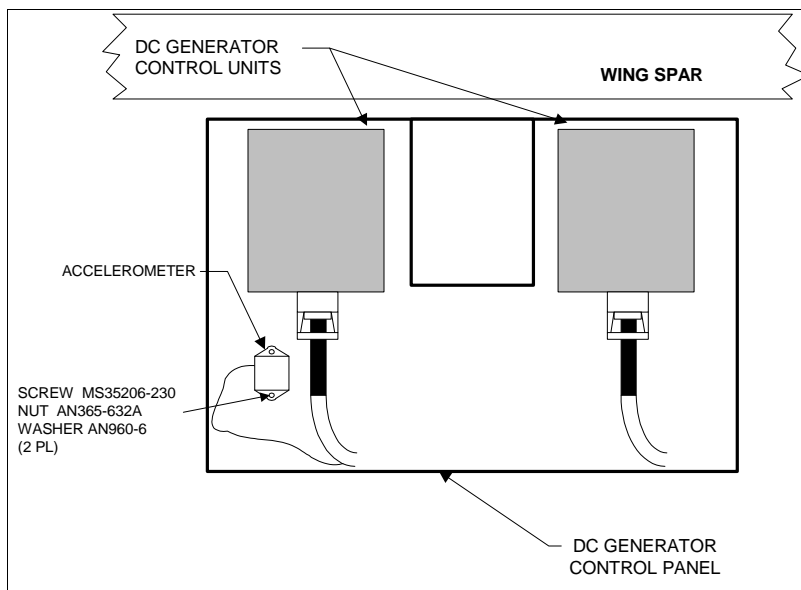

Figure C- 8: Accelerometer Mount and Orientation (Viewed From Above)
- ❑ 020 Following Figure C- 8 , find a convenient location and mount the accelerometer with the supplied screws (MS35206-230) and lock nuts (AN365-632A).